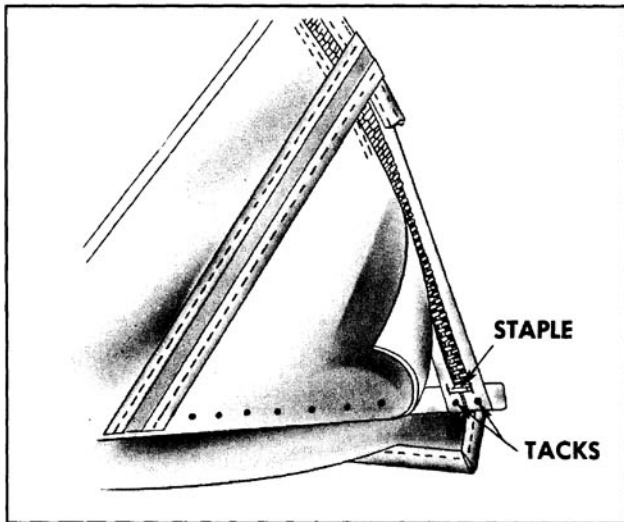

Fig. 16-456 Zipper Installation
(Fig. 16-456) Zipper tape should not be pulled taut as zipper teeth may show through top material after top has been properly installed.
11. Staple both sections of zipper tape together. Staples will aid in preventing zipper scoops from disengaging and also serve as a stop for the slide fastener. (Fig. 16-456)